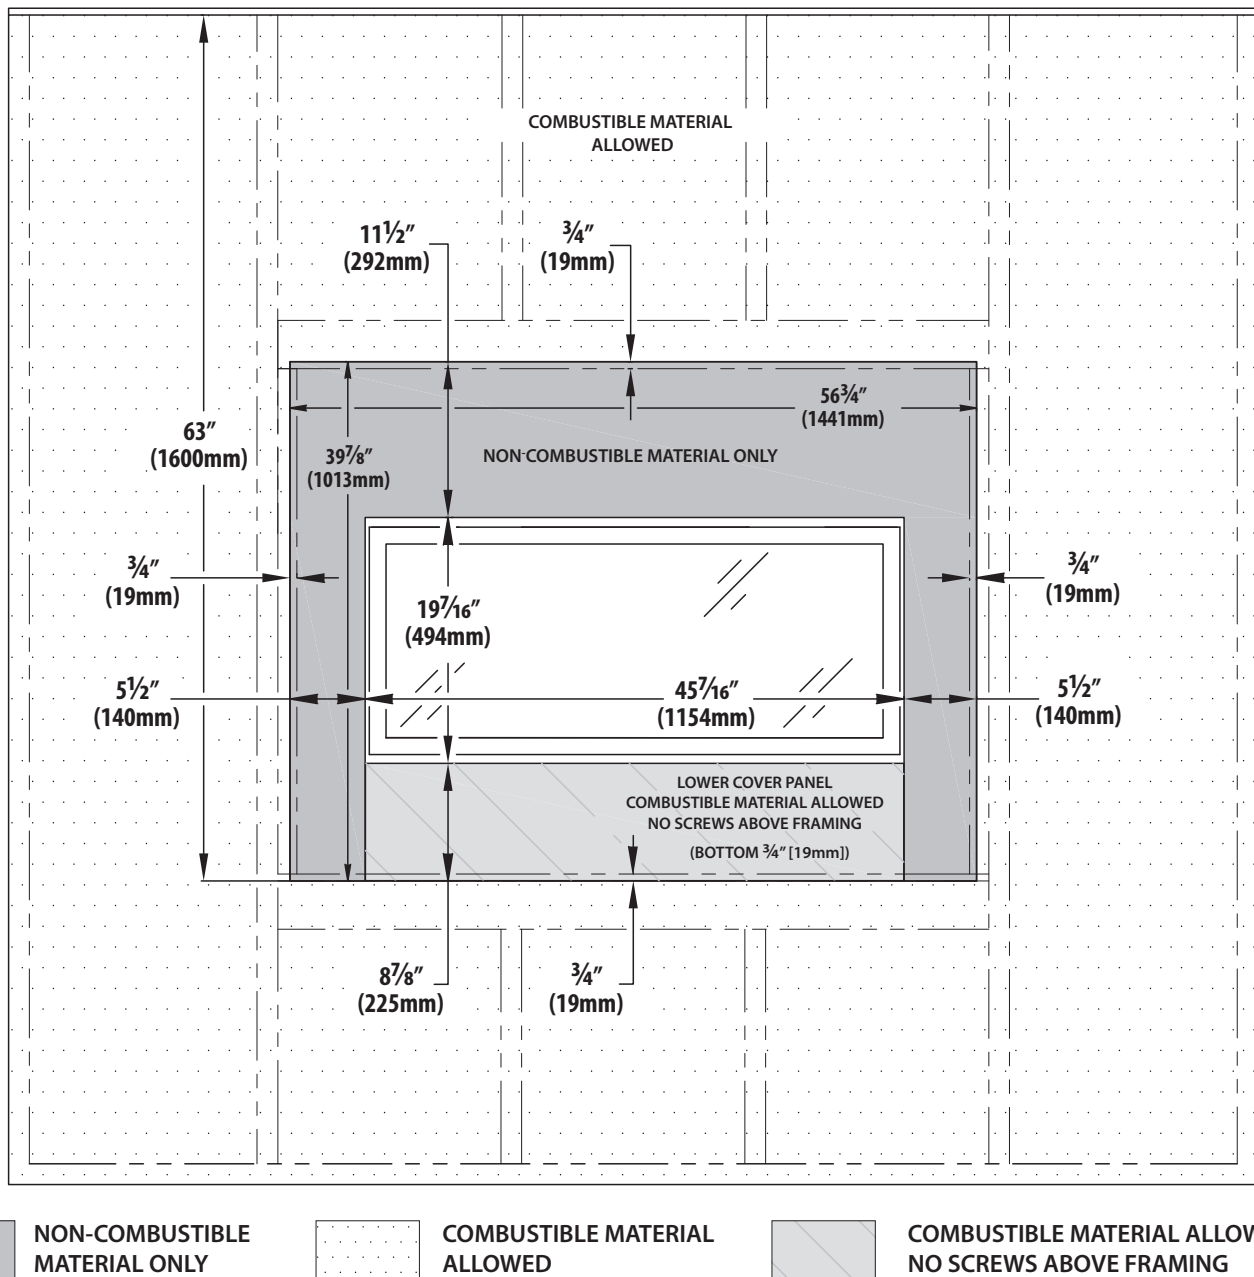

FIGURE 4.3 *Minimum Non-Combustible Material Dimensions*
- It is acceptable to pre-drill holes and to use self-tapping screws to attach the non-combustible material to the top and sides of the fireplace face. See **FIGURE 4.3** on page 23.